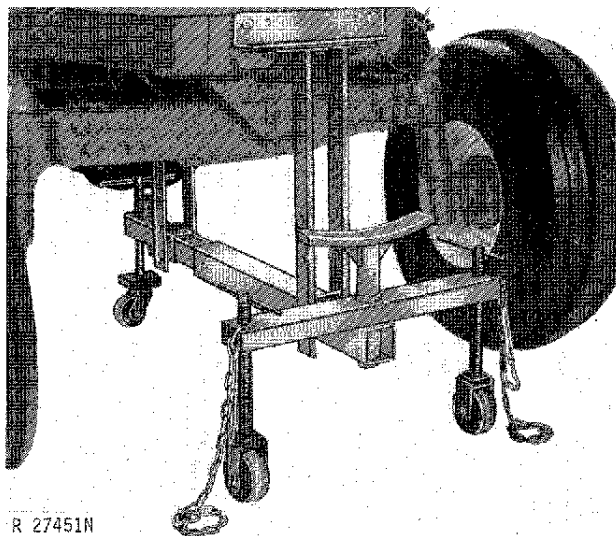

Fig. 42-Attaching Splitting Stand
- 35. Attach JDG-12-1 Splitting Stand with Attachments to tractor (Fig. 42).